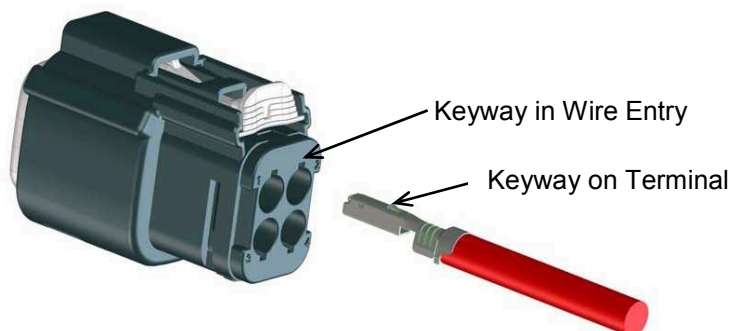

Figure 8: Terminal Orientation
2. The terminal must be positioned correctly when inserted into the housing to assure proper latching and retention. Orient the key on the back of the female terminal with the keyway on the wire entry cavity in the rear of the housing (See Figure 8). Insert the terminal into the housing until it clicks and a slight pull back on the wire is met with resistance from terminal retention feature.